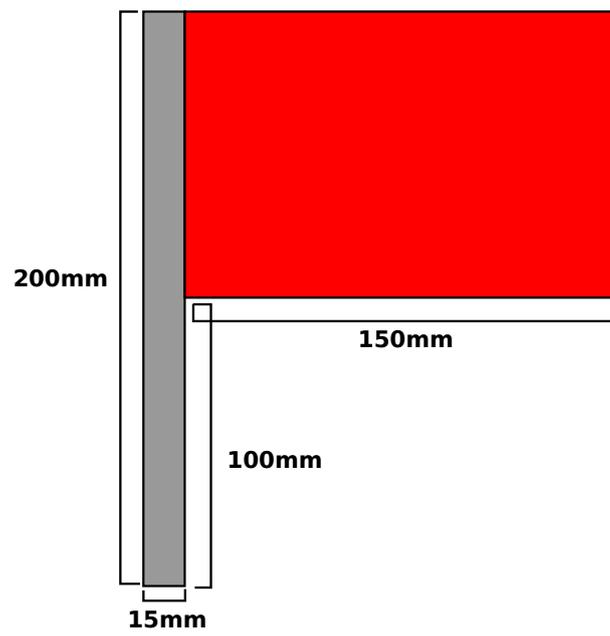

Figure 1: An example robot flag.
3.2.1 A “robot flag” is a removable identifier that will be attached to a robot throughout a match. It features identifying areas to allow spectators to easily associate a robot with its starting area. An example of one of these flags is shown in figure 1. The markings in the identifying areas are intentionally not specified.
3.2.3 The identifying area will be attached to the top $100\text{mm} \pm 10\text{mm}$ of the mounting cylinder, with a width of $150\text{mm} \pm 10\text{mm}$, as described in figure 1.